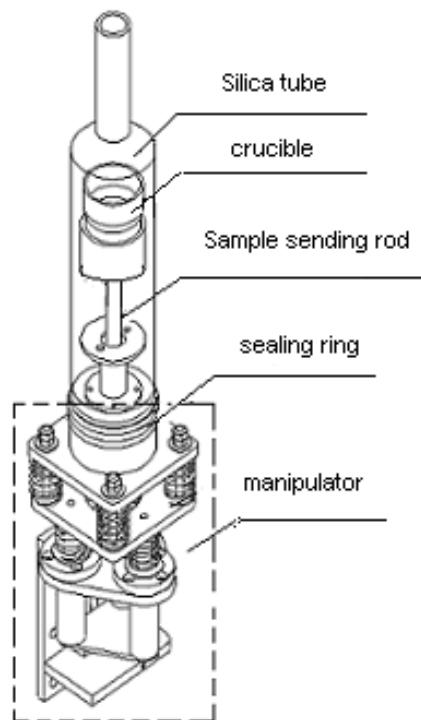

Fig. 3-2 Silica Tube of Combustion Furnace and Related Components
- b. Install the silica tube in the combustion furnace: firstly, move the manipulator to the crucible change position, so you can dismount the sealing socket located at the bottom of the furnace. Secondly, mount two mode 3550400 O rings on the outer wall at the lower end of the silica tube (refer to Fig. 3-2 for the mounting position of O rings), and then insert the silica tube slowly into the furnace. Lastly, fasten the sealing socket at the bottom of the furnace, and mount two 26501800 type seal rings on the outer wall of silica tube, which is at the top of the combustion furnace.